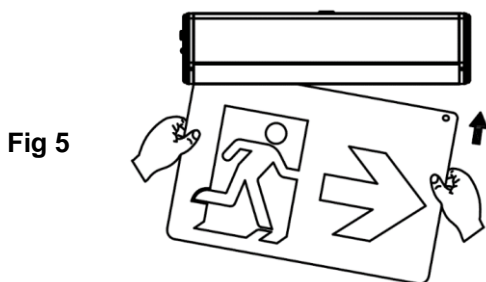

Fig 5
4. Insert EXIT panel into main body assembly gently. (Fig 5)